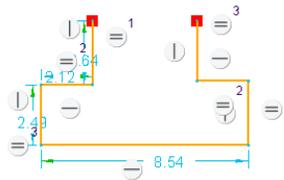

Figure 3-45 Lines in the sketch with the dimensions turned off for clarity
- Draw the lines with constraints, as shown in Figure 3-45.